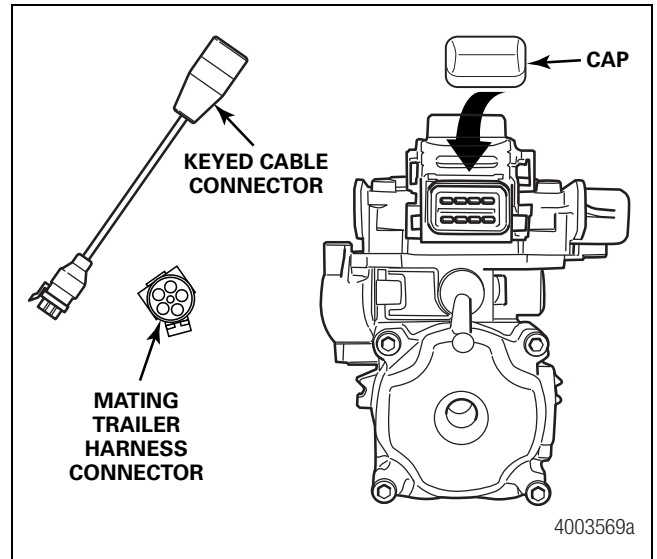

Figure 11
4. Push the hinged power/diagnostic connector retainer clip UP and remove the protective cap from the ECU/dual modulator valve assembly. Figure 11.